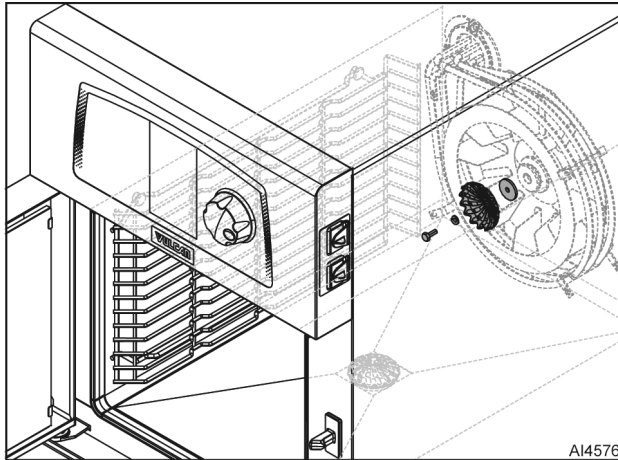

Fig. 22
- Remove bolt, lock washer, atomizer, and flat washer (Fig. 22) from blower motor shaft.